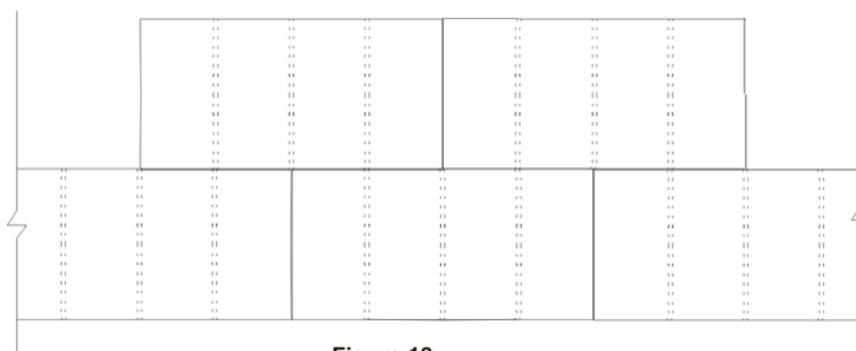

Figure 18
5. Install subsequent rows of insulation board in a running bond pattern (vertical joints staggered) as shown in Figure 18.